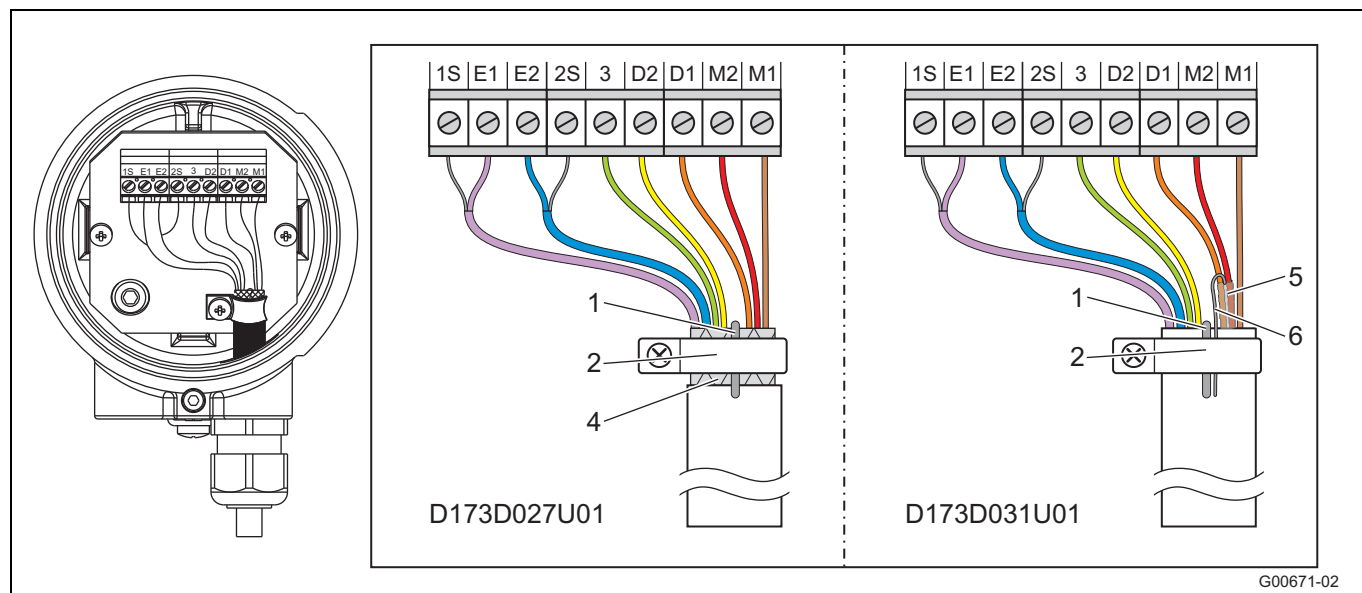

Fig. 33
- Connect all other wires as shown in Fig. 33